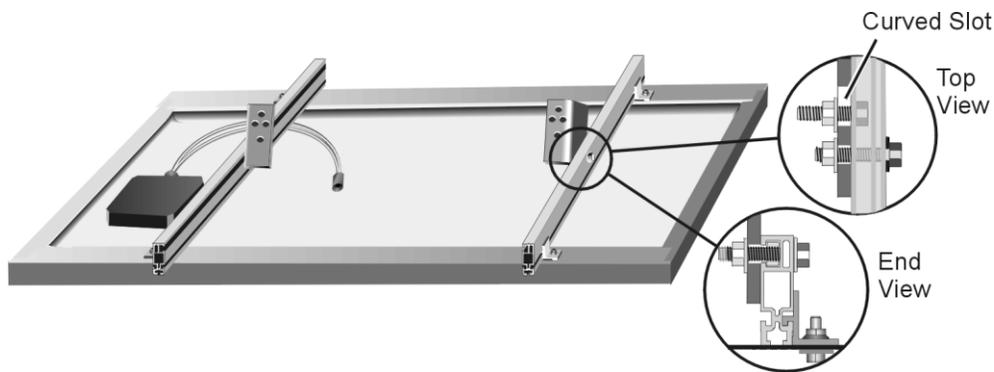

Figure 10 Attaching the Brackets to the Mounting Rails
The brackets are different, for mounting on the left and right sides. Orient the brackets as shown in Figure 10.
3. Place a second 3/8" hex head bolt through the hole at the outside of the mounting rail and through the adjoining hole on the bracket (Figure 10). Loosely fasten the bolt by means of a 3/8" flange nut.